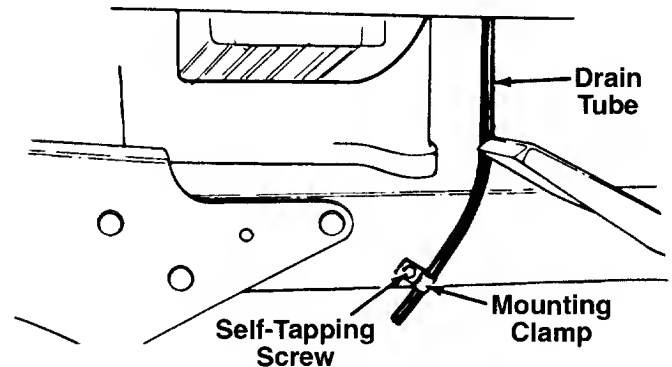

FIGURE 10.
5. Route the battery drain tube over to the left side of the tractor. Loosen the self-tapping screw which secures the mounting clamp. See figure 10. Slip the end of the drain tube into the mounting clamp. Tighten the self-tapping screw to secure the clamp. Do not overtighten which could collapse the drain tube.